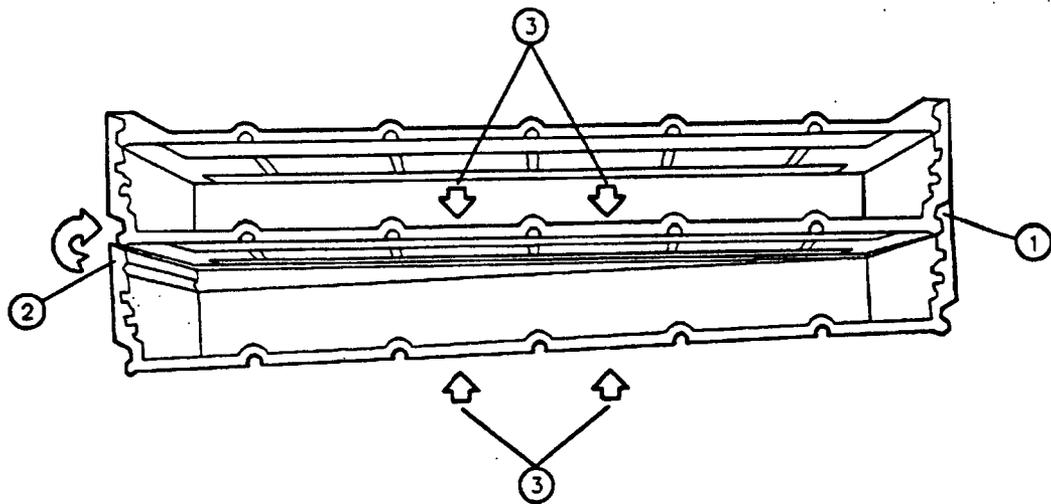

Figure 3-32. IF Extrusion Section Replacement
2. Place a single extrusion section next to the incomplete extrusion as shown in Figure 3-32.
3. Interlock the joint (1) of the single extrusion section with the joint on the incomplete extrusion assembly.
4. Position the other joint (2) of the single extrusion section against the joint on the extrusion assembly.
5. Squeeze the two adjoining extrusion sections together at the center of each section (3). Press with both hands, using moderate force, until the joint (2) of the single extrusion section snaps into place on the extrusion assembly.